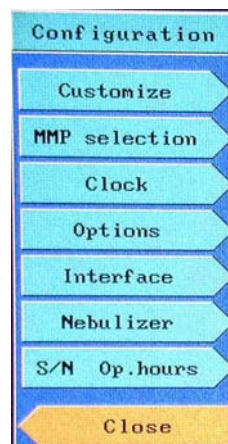

Figure 7-9. A Configuration menu
2. Activate the **Configuration** button on the setup screen. A **Configuration** menu identical or similar to the one shown in Figure 7-9 opens.